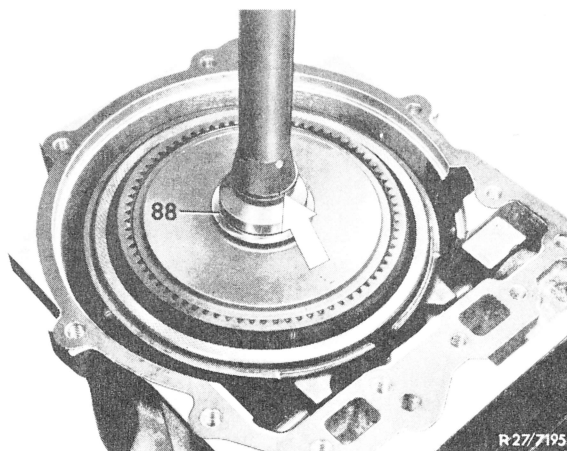

Fig. 58
**84** Adjust dimension "C" for end play by placing compensating washer (88) on input shaft to its value of  $0.4 + 0.1$  mm (Fig. 58).
**85** Center gasket prior to mounting front transmission cover. Align piston ring on input shaft in such a manner, that the gap and the groove are aligned (arrow in Fig. 58).